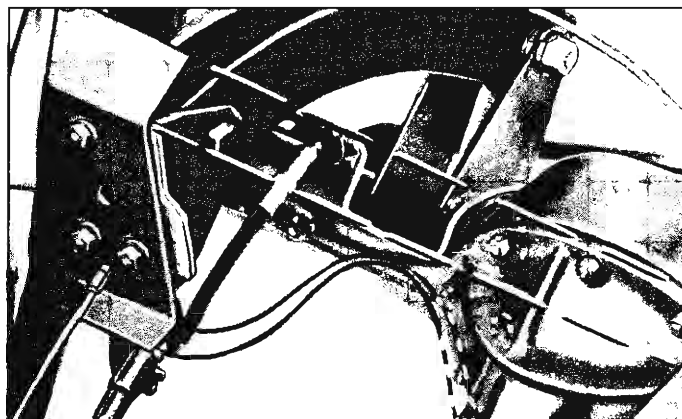

Fig. 25—Rear Suspension Upper Control Arm Attaching Points
1. Using a suitable hoist that will support the rear axle housing or wheels (such as a twin post or drive on ramp type), remove the rear pivot bushing bolt at the rear axle housing (fig. 25).